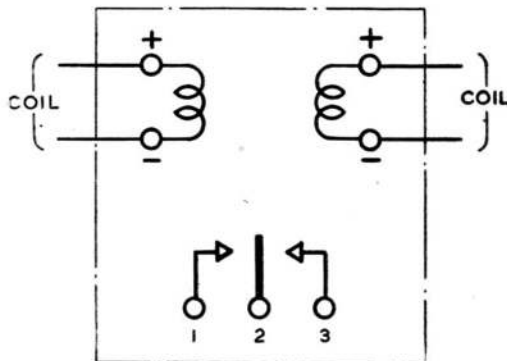

Fig. 2. Internal circuit diagram
4. A wiring diagram (*fig. 2*) illustrates the coil connections when the switch is viewed on the end carrying the connection leads. When a current of the same polarity as the markings on the diagram is passed through either of the coils, the moving contact (2) will make with the fixed contact (1). If the polarity of the current is reversed, the moving contact will make with the fixed contact (3).
10. Test that the moving contact operates correctly by connecting the two coils in series and passing a current of 0.625 mA. (max. 50V) through them. Reversing the polarity of the supply will check the operation in both directions as indicated in fig. 2.